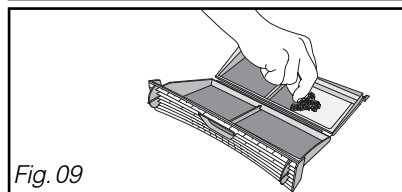

Fig. 09
- Clean it by removing the thin coating of fluff covering it (Fig. 09)